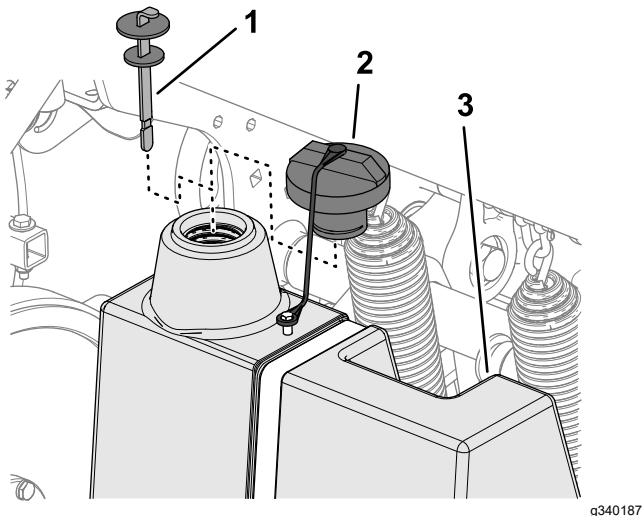

Figure 179
3. Clean the area around the filler neck and the cap of the hydraulic tank (Figure 179). Remove the cap from the filler neck.